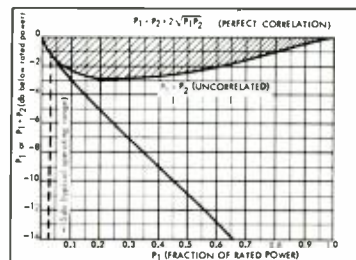

Fig. 2. Power distribution in dual-channel amplifier.
(B) of Fig. 2 shows the low-frequency equivalent mechanical circuit of the complete vented enclosure system. The approximate resonant frequencies of the system are:
This relationship is plotted in Fig. 2 where the lower curve is P_2 and the horizontal axis is P_1 . The middle curve shows the time average sum of the powers or the total output power of the amplifier. The powers may be added directly only when the assumption is made that the frequencies are different. When there is any correlation between the signals in the two channels, a cross-product term appears in the total power; and in the case of perfect correlation (e.g. sinusoids of identical frequency and phase), the total power is P_{max} regardless of the distribution between channels. Thus, depending on the correlation and the distribution, the total available power lies somewhere within the shaded area. (Incidentally, the same is true of any single-channel amplifier. If two equal sinusoids of different frequencies are put into an amplifier, the maximum power at the output will only
sider that each channel might be operating at -15 db referred to maximum power, so that the total power output is -12 db. It may now be seen from Fig. 2 that either channel may now handle a peak at -1.5 db, a safety factor of 13.5 db. Herein lies the advantage of the simplex; if the two channels are handling uncorrelated signals, each appears to have nearly the total amplifier power in reserve. There are presently two major hi-fi applications where a pair of amplifiers is needed to handle relatively uncorrelated signals: playback systems with low-level crossover and stereo systems. It was found that the simple simplex could be applied to the former situation², but a push-pull arrangement was desired for both channels of the stereo system. It is for this application that the following circuit was developed.